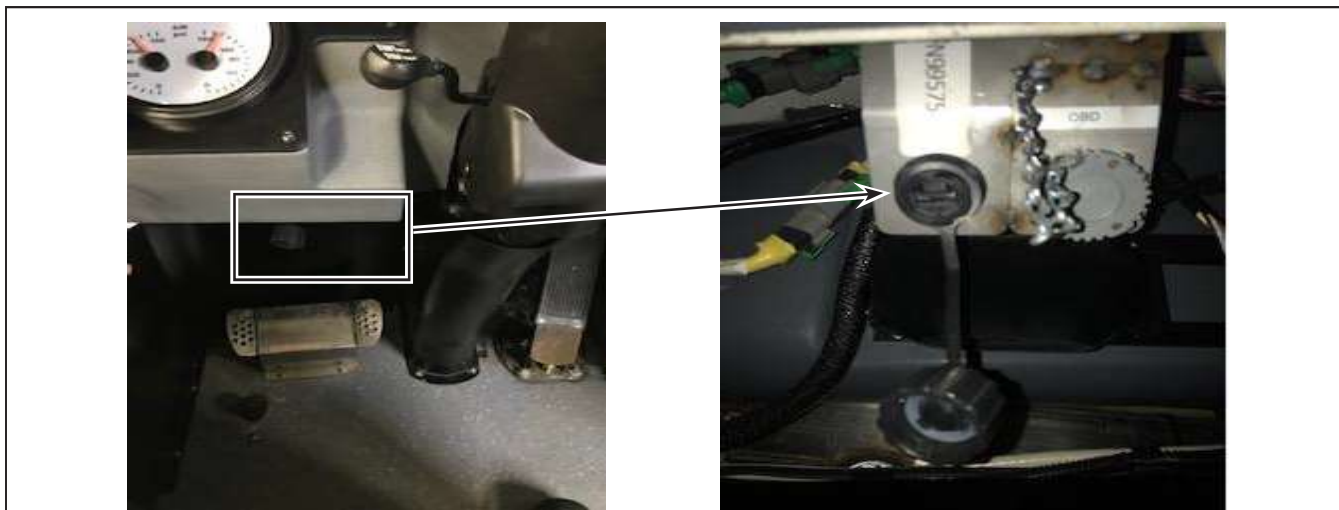

Figure 3 - Location of USB Port under Dashboard
- 1.5. Connect the USB cable to the USB port located under the dashboard and the other end to the laptop computer. See Figure 3.